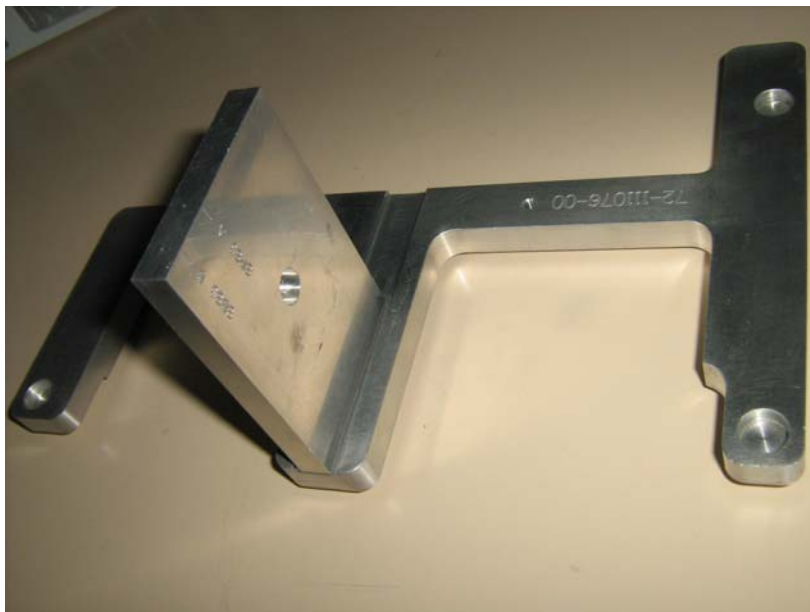

Figure 40. Top Layer Plane Alignment Tool
- Alignment tool (see Figure 40)